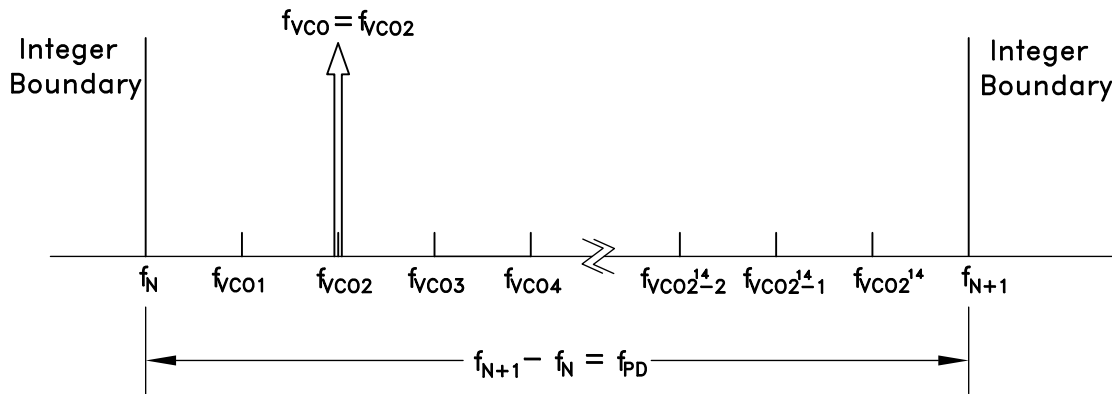

Figure 44. Exact Frequency Tuning
and  $f_{VCOk}$  are the channel step frequencies where  $0 < k < 2^{24}-1$ , As shown in Figure 44.
Some fractional PLLs are able to achieve this by adjusting (shortening) the length of the Phase Accumulator (the denominator or the modulus of the Delta-Sigma modulator) so that the Delta-Sigma modulator phase accumulator repeats at an exact period related to the interval frequency ( $f_{VCOk} - f_{VCO(k-1)}$ ) in Figure 44. Consequently, the shortened accumulator results in more frequent repeating patterns and as a result often leads to spurious emissions at multiples of the repeating pattern period, or at harmonic frequencies of  $f_{VCOk} - f_{VCO(k-1)}$ . For example, in some applications, these intervals might represent the spacing between radio channels, and the spurious would occur at multiples of the channel spacing.
If it is desirable to have multiple, equally spaced, exact frequency channels that fall within the same interval (ie.  $f_N \leq f_{VCOk} < f_{N+1}$ ) where  $f_{VCOk}$  is shown in Figure 44 and  $1 \leq k \leq 2^{14}$ , it is possible to maintain the same integer-N (Reg 03h) and exact frequency register (Reg 0Ch) settings and only update the fractional register (Reg 04h) setting. The Exact Frequency Channel Mode is possible if \(EQ 17\) is satisfied for at least two equally spaced adjacent frequency channels, i.e. the channel step size.
To configure the HMC834LP6GE for Exact Frequency Channel Mode, initially and only at the beginning, integer (Reg 03h) and exact frequency (Reg 0Ch) registers need to be programmed for the smallest  $f_{VCO}$  frequency ( $f_{VCO1}$  in Figure 44), as follows:
1. Calculate and program the integer register setting Reg 03h =  $N_{INT} = \text{floor}(f_{VCO1}/f_{PD})$ , where  $f_{VCO1}$  is shown in Figure 44 and corresponds to minimum channel VCO frequency. Then the lower integer boundary frequency is given by  $f_N = N_{INT} \cdot f_{PD}$ .
Reg 04h =  $N_{FRAC} = \text{ceil}\left(\frac{2^{24}(f_{VCOk} - f_N)}{f_{PD}}\right)$  where  $f_N = \text{floor}(f_{VCO1}/f_{PD})$ , and  $f_{VCO1}$ , as shown in Figure 44, represents the smallest channel VCO frequency that is greater than  $f_N$ .
- To change from channel 1 ( $f_{VCO1} = 2800.2$  MHz) to channel 2 ( $f_{VCO2} = 2800.3$  MHz), only Reg 04h needs to be programmed, as long as all of the desired exact frequencies  $f_{VCOk}$  (Figure 44) fall between the same integer-N boundaries ( $f_N < f_{VCOk} < f_{N+1}$ ). In that case